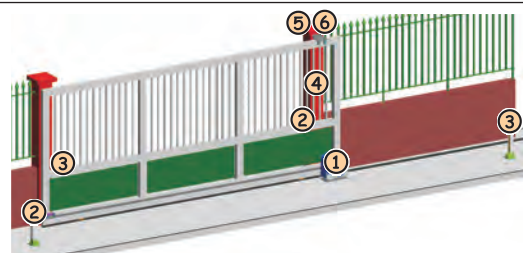

Fig. 3
4. Prepare the electrical cables for connection to the accessories and the electrical power supply as shown in Fig. 3.